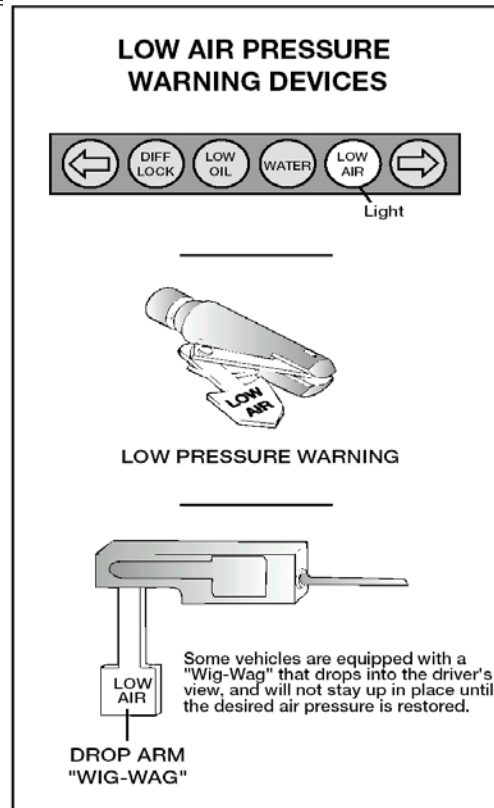

Figure 5.5
**Test Low Pressure Warning Signal.** Shut the engine off when you have enough air pressure so that the low pressure warning signal is not on. Turn the electrical power on and step on and off the brake pedal to reduce air tank pressure. The low air pressure warning signal must come on before the pressure drops to less than 60 psi in the air tank (or tank with the lowest air pressure, in dual air systems). See Figure 5.5.